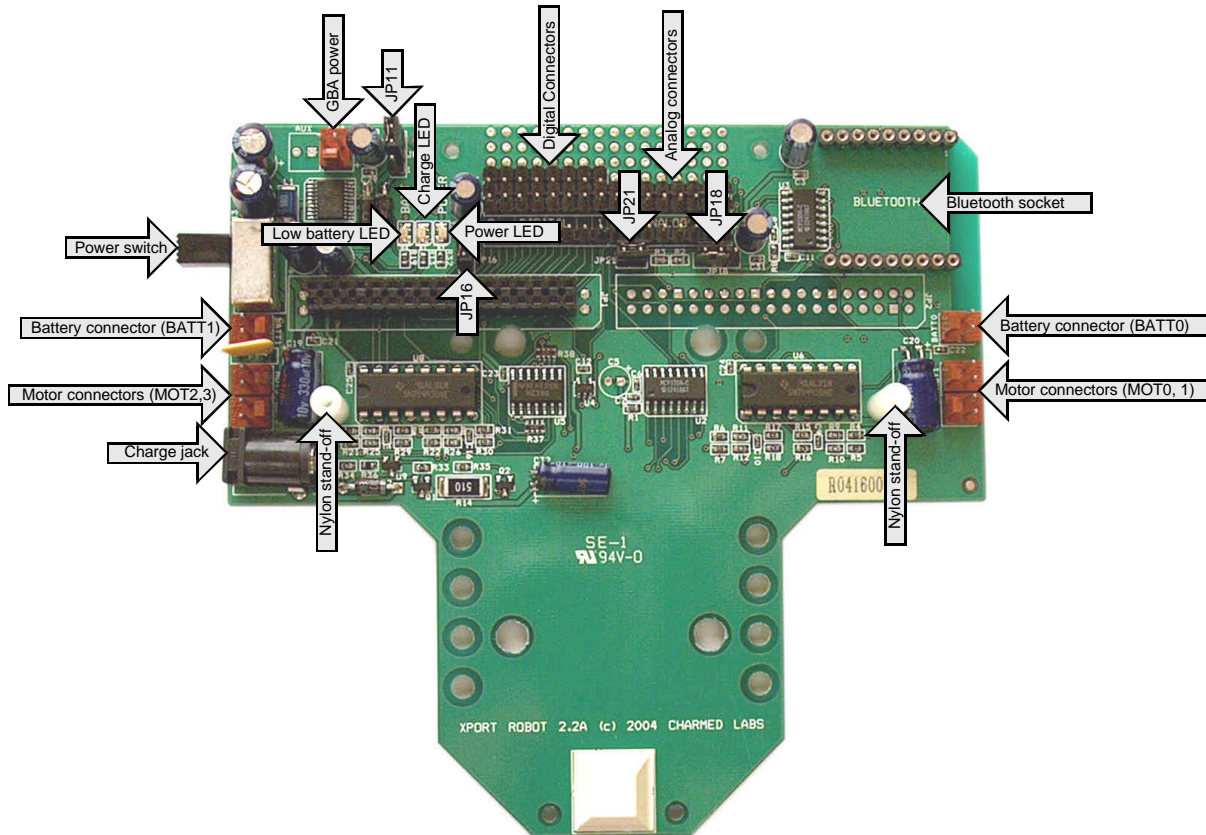
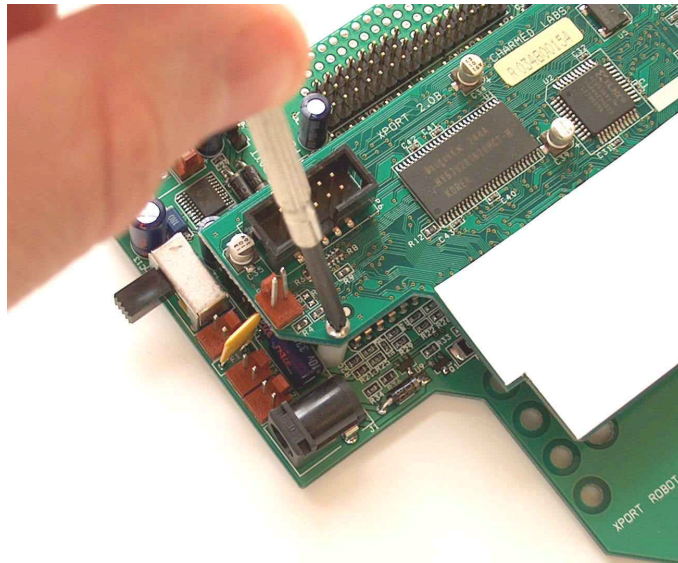

Figure 1: XRC Robot Board
Figure 3: Secure Xport to Robot Board
The Xport Robot Controller (XRC) consists of both the Xport and the Robot Board. **Figure 1** below details the Robot Board and its components.
2. When the robot board is fully engaged with the Xport, it will rest upon the white nylon stand-offs (**Figure 1**) on the Robot Board. Using a small phillips screwdriver and two small 2-56 fasteners, which come in a separate bag, secure the Xport to the Robot Board as shown in **Figure 3**. Note, it is possible to plug in the Robot Board such that it is shifted 0.100". If you notice that the holes in the Xport do not line up with the holes in the nylon stand-offs, this is probably the reason. Try unplugging the Robot Board and trying to reposition.